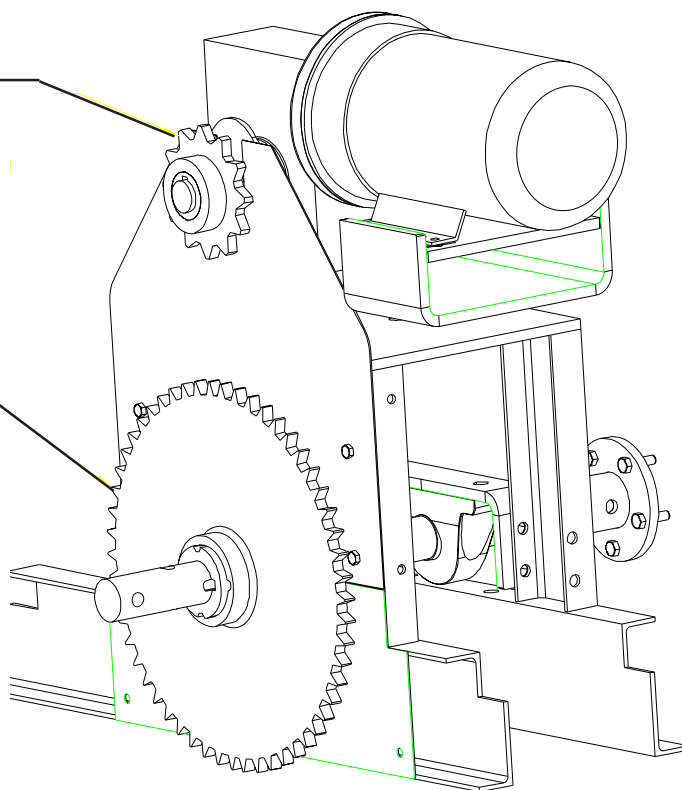

FIG. TD3
- D. Slide the twelve tooth drive sprocket, bushing and key (see the key chart for your key size) onto the output shaft of the reducer, making sure both sprockets line up. (See Fig TD3 & TD4)